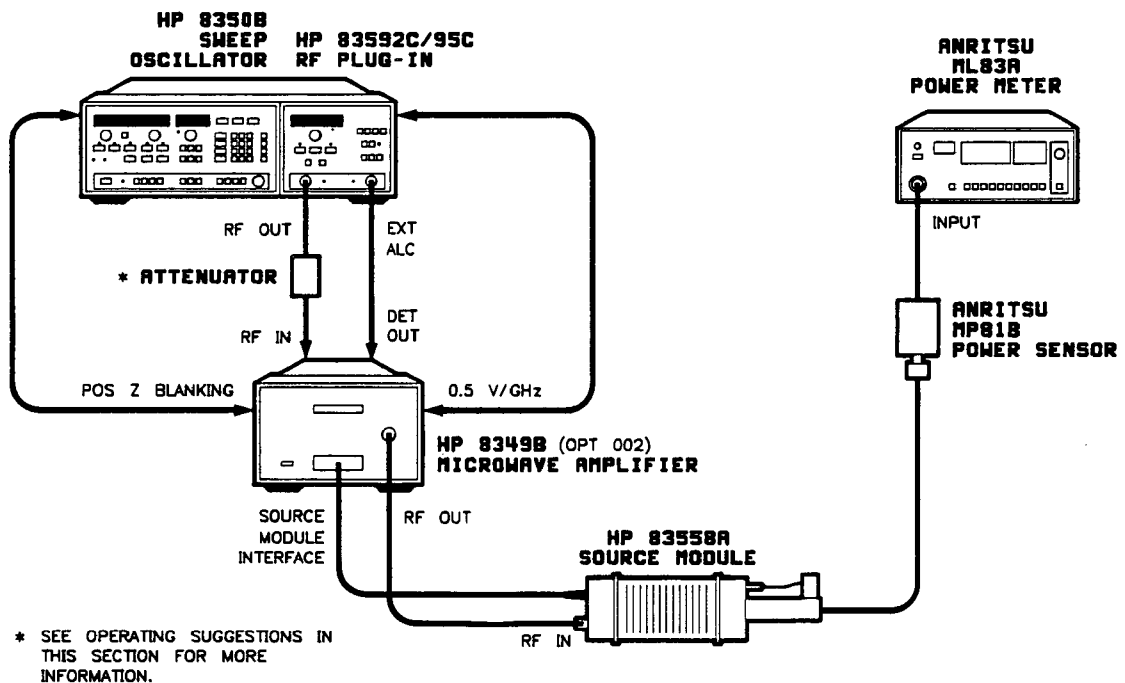

Figure 2b-4. System Configuration
1. Connect the equipment as shown in Figure 2b-4. Do not connect the power sensor to the HP 83558A output.